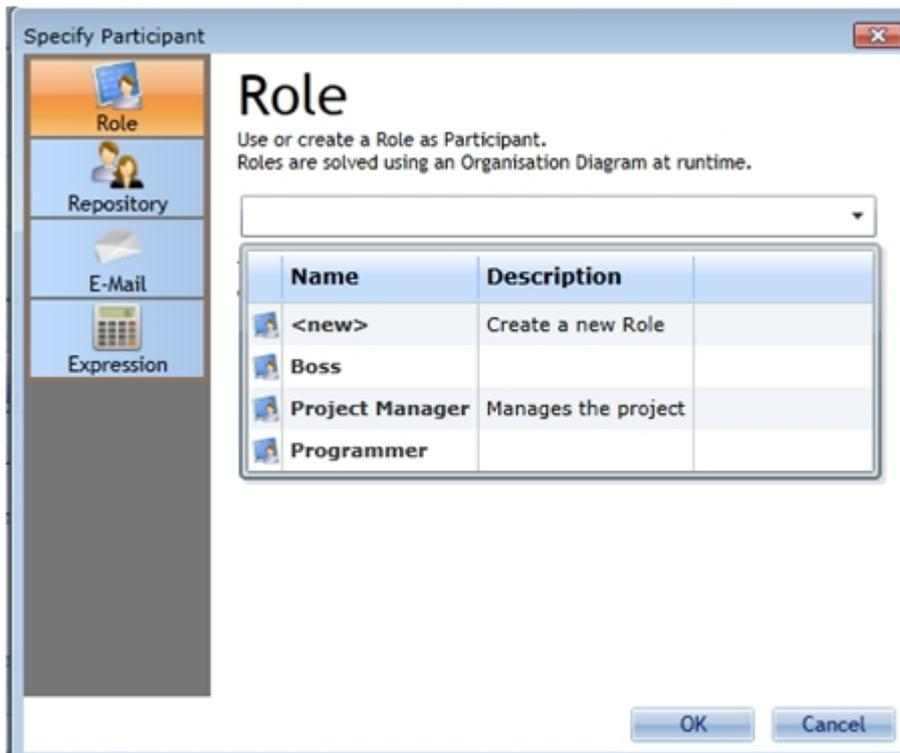

Figure 4: IYOPRO's Role Editor
- IYOPRO's Role Editor shows up, in which you can specify the participant's role (see Figure 4 below)